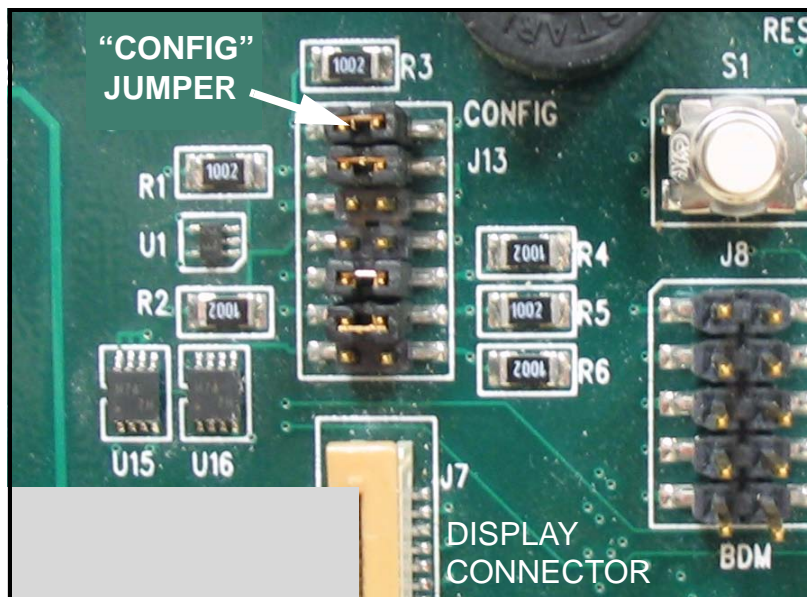

Figure 2-3: J13 Header Connector
2. Open the enclosure, remove the main aluminum shroud and locate the J13 header connector (above the display connector) on the main board (see Figure 2-3 below).
2. Open the enclosure, remove the main aluminum shroud and locate the J13 header connector (above the display connector) on the main board (see Figure 2-3 on page 2-4).